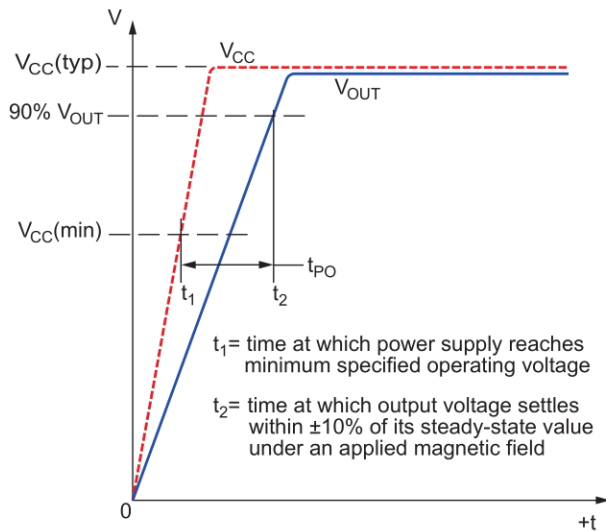

Figure 1: Definition of Power-On Time,  $t_{PO}$
**Power-On Time.** When the supply is ramped to its operating voltage, the device output requires a finite time to react to an input magnetic field. Power-On Time,  $t_{PO}$ , is defined as the time it takes for the output voltage to begin responding to an applied magnetic field after the power supply has reached its minimum specified operating voltage,  $V_{CC}(\min)$ , as shown in Figure 1.